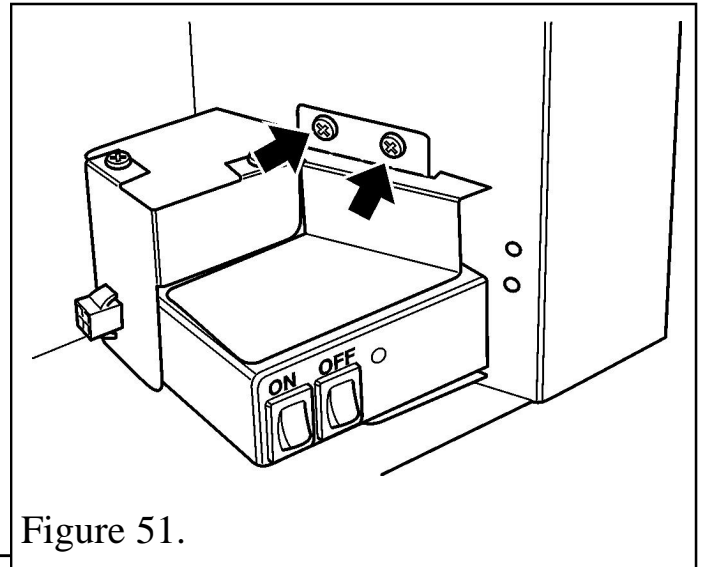

Figure 51.
2. Detach the control unit from the hotbox by removing two screws (See figure 51). Carefully withdraw the unit.